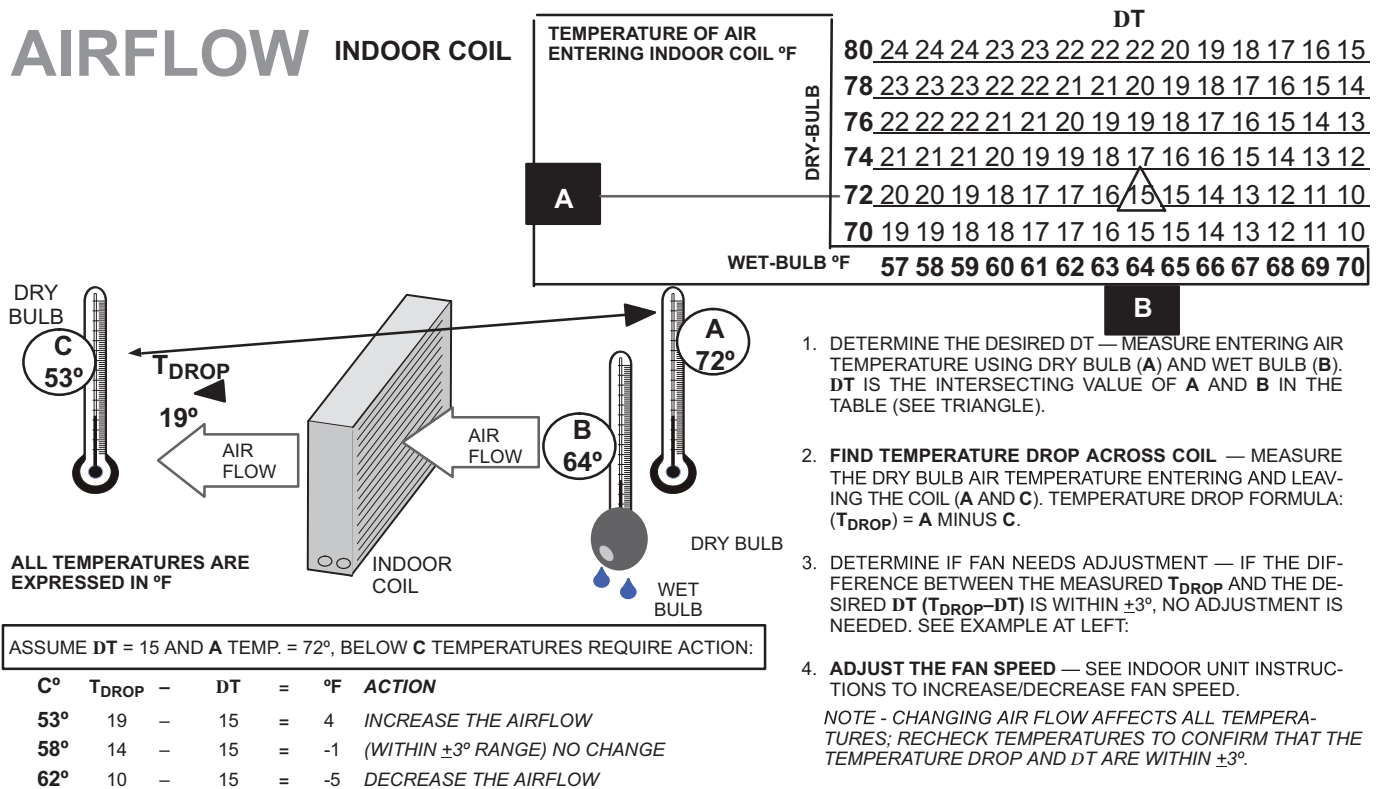

FIGURE 42. Checking Indoor Airflow over Evaporator Coil using Delta-T Chart
- 2 - Check and adjust indoor airflow as described in figure 42.